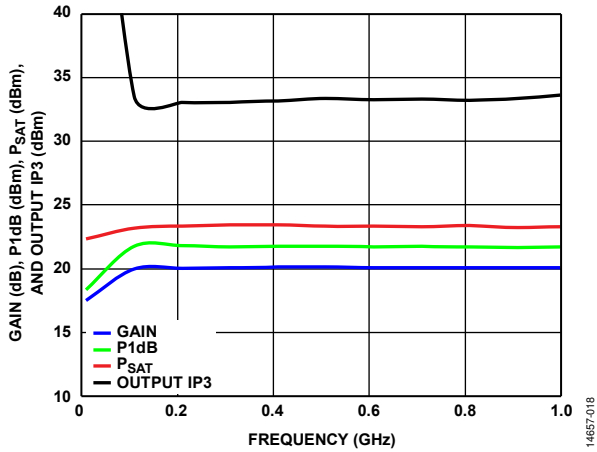
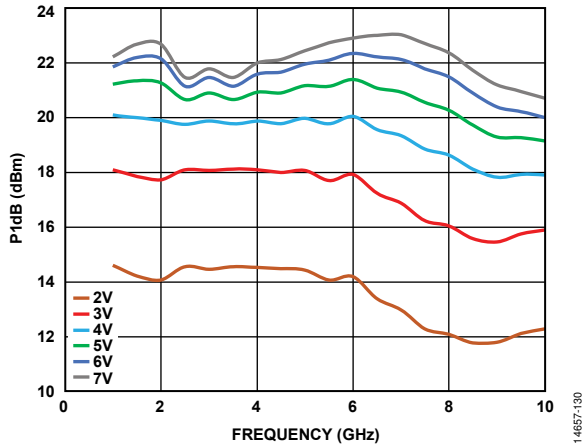
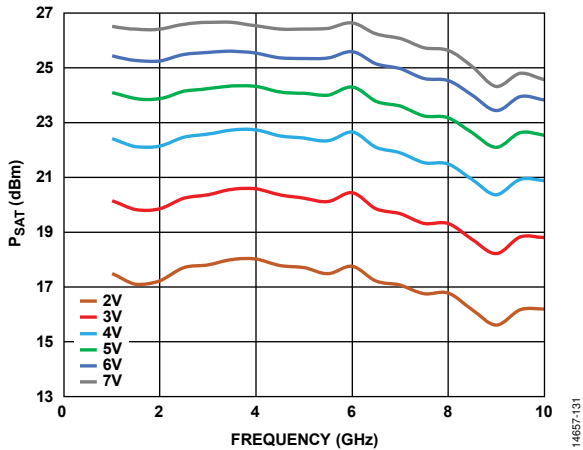

Figure 18. Gain, P1dB, Psat, and Output IP3 vs. Frequency
Figure 30. P1dB vs. Frequency for Various Supply Voltages, $I_{DQ} = 65$ mA
Figure 31. P_{SAT} vs. Frequency for Various Supply Voltages, $I_{DQ} = 65$ mA
Figure 18, Figure 30, and Figure 31 show that increasing the voltage from 2 V to 7 V typically increases P_{1dB} and P_{SAT} at the expense of power consumption with minor degradation on noise figure (NF).